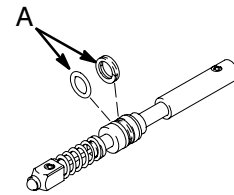

Fig. 7
6. Grease the rings (A) of the new needle (2c\*). See Fig. 7.